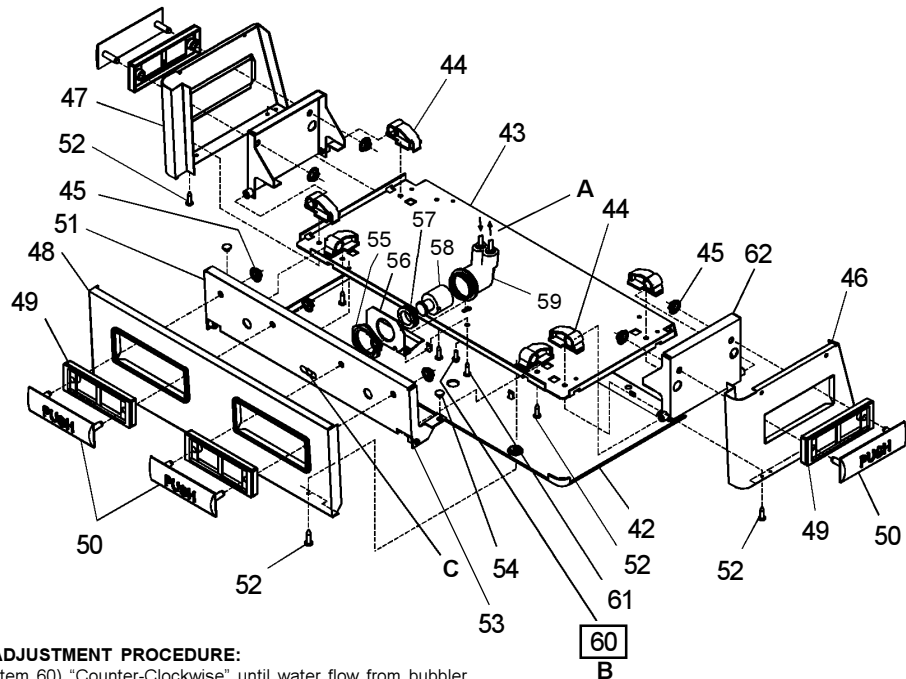

FIG. 3
- 8) Stream height is factory set at 45-50 PSI. If supply pressure varies greatly from this, readjust stream height to approximately 1-1/2" (38mm) above the bubbler guard by turning adjustment screw, accessible by removing front push panel, Item No. 48 (see Fig.3 & 5).
- 9) Replace the front panel and secure by retightening four (4) screws.